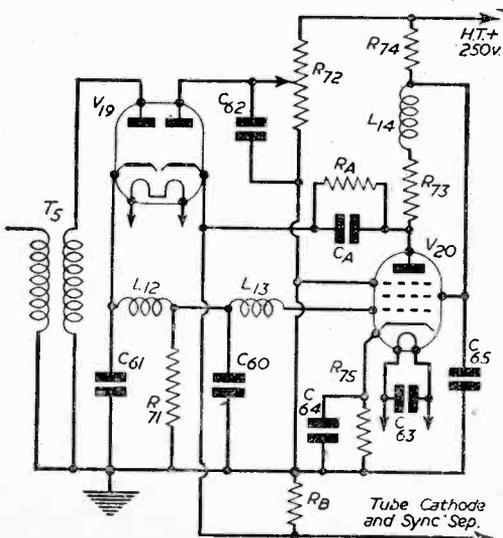

Fig. 1.—Video and noise suppressor stage.
Grid feed of the signal to the tube is usual in VCR97 sets, whilst magnetic tubes usually operate with a cathode feed. Signal polarity must therefore be changed by reversing the connections to the detector diode. Any noise-limiter used must also be adapted to operate on a signal of reversed polarity. The video valve bias must be increased to deal with the reversed input. Fig. 1 shows the changes necessary to the circuit of March, 1951, incorporating these reversals and a modified video output circuit and bias resistor. The component
**COMPONENTS FOR FIG. 1**